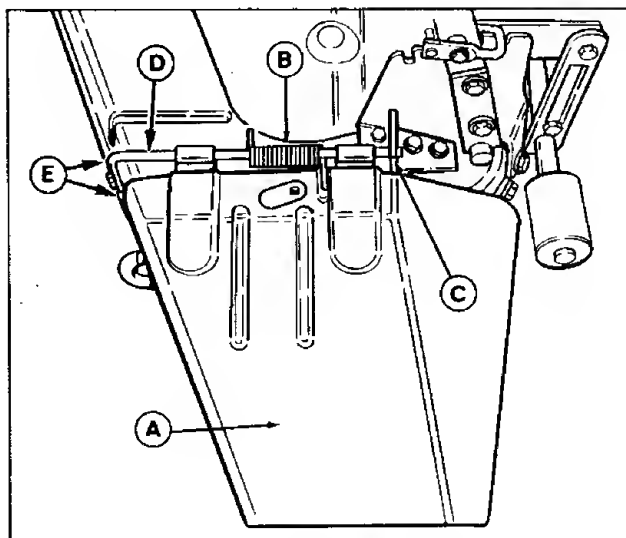

Figure 1. 48" Mower
1. Remove the deflector (A, figure 1) by removing two carriage bolts (E, figure 1), lockwashers and nuts. Save fasteners for reinstallation.
2. Remove the rod (D, figure 1) and spring (B) from the deflector. These parts will not be used. The deflector will be reinstalled.
3. Remove the bracket (C, figure 1) from the mower deck. It will not be used.